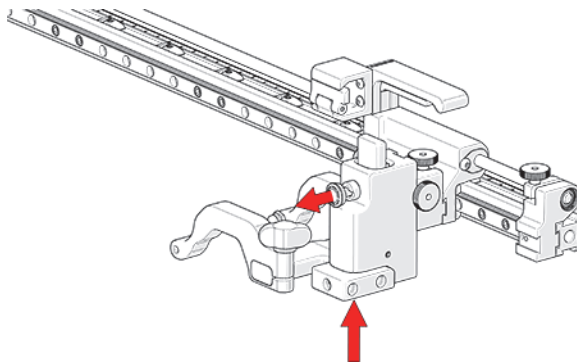

Figure 3-25 Press up and pull latch
1. Gently lift the heavy duty probe holder and simultaneously pull the latch (see Figure 3-25 on page 54).